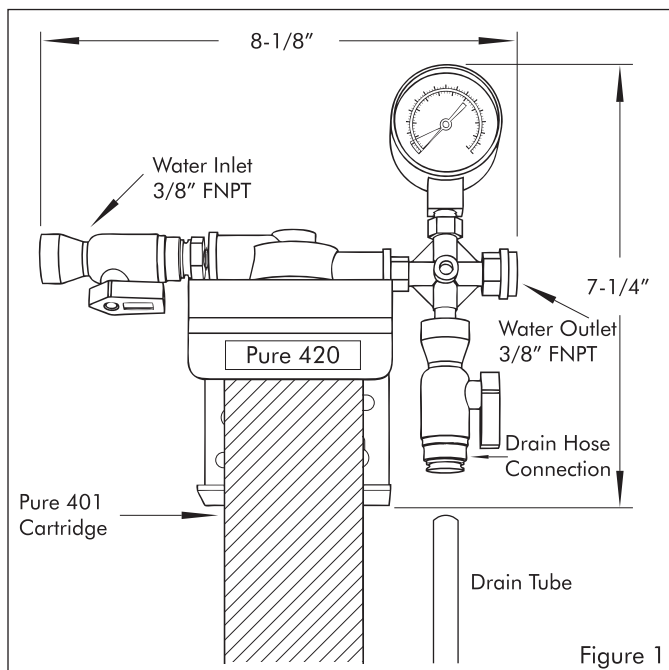

Figure 1
1. Use predrilled mounting holes in the manifold bracket as guides. Mark and drill anchor holes. Mount Securely (see Figure 1).